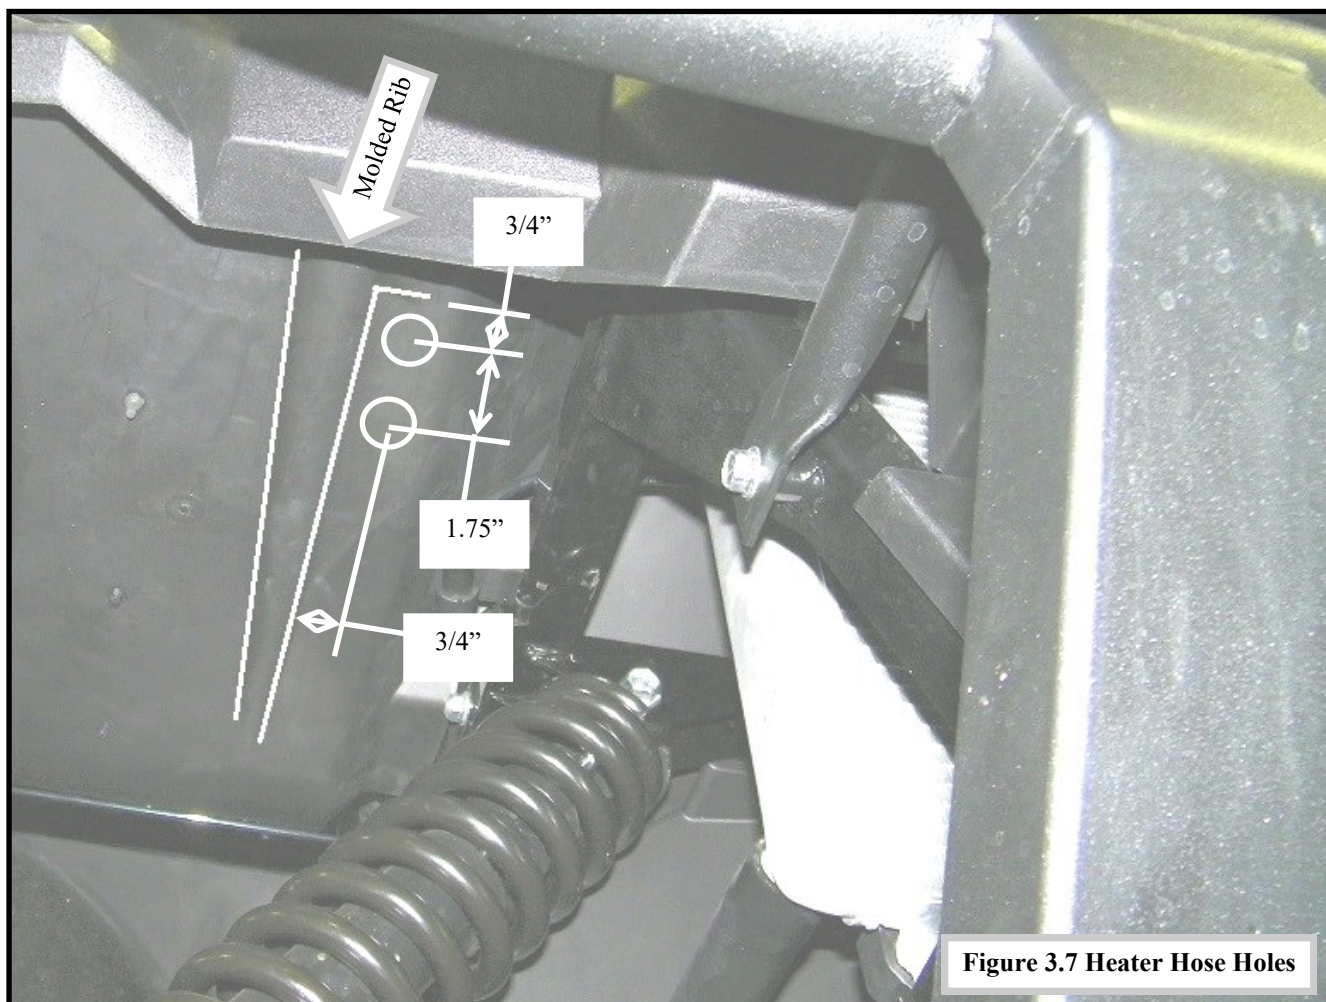

Figure 3.7 Heater Hose Holes
3.7 Drill two Ø1-1/8" holes through the bottom of the radiator cover. (Figure 3.7)